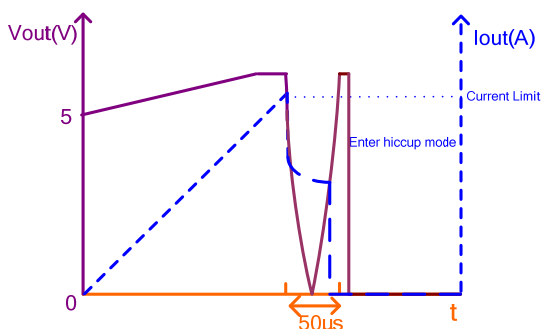

Figure 5: Over-Current Protection
After the soft start finishes, if there is an output under-voltage ($V_{USB} < 4V$) that lasts longer than $50\mu s$, the MPQ4475-E enters hiccup mode (see Figure 5). This prevents an abnormal thermal rise during the constant resistor (CR) load over-current case.